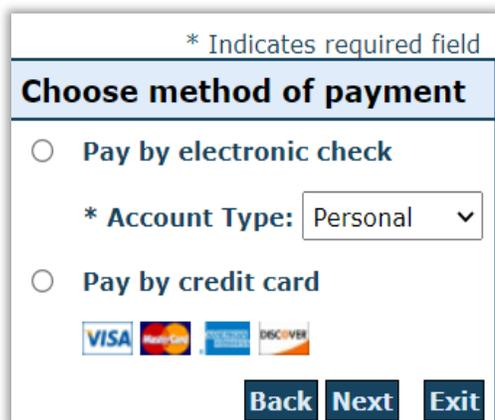

Figure 6-10 – Online Payment Method
**Step 4:** Select **Pay by electronic check** or **Pay by credit card**, when selecting **Pay by electronic check**, select Account type. The selections are Personal or Business depending on which checking account you want the funds to be drawn from. See Figure 6-10.